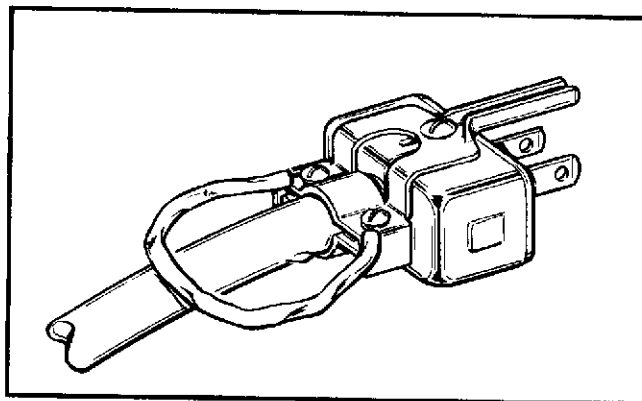

Figure 4-4. Connector Plug for
c. A new style power cable is supplied with Type AQ-2A(1) projectors bearing serial numbers P99000 and higher. This cable is equipped with a 3-bladed connector plug (Figure 4-4) of the self-grounding type, with a disconnect pull-chain provided.